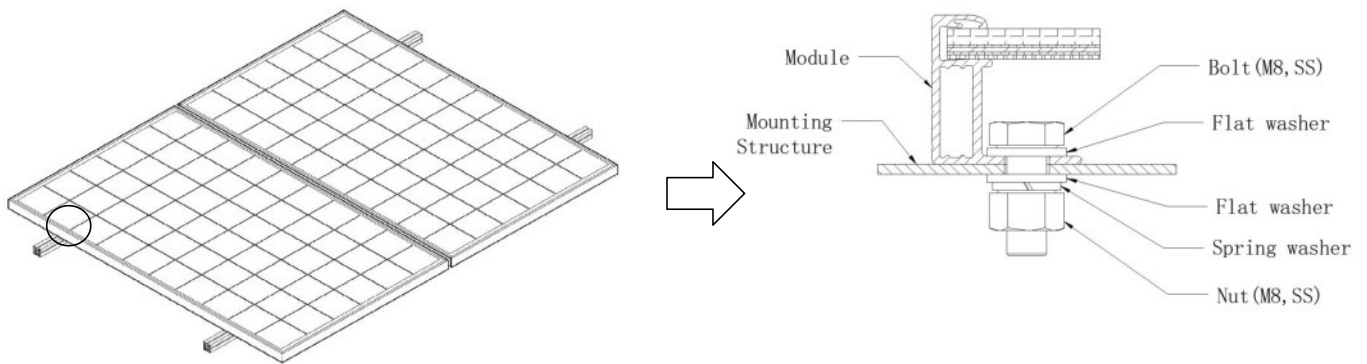

Figure 3 Bolt hole installation
- ◇ **Bolt hole installation :** Use anti-corrosion bolts to secure with the mounting brackets through the mounting holes on the assembly frame, as shown in Figure 3;